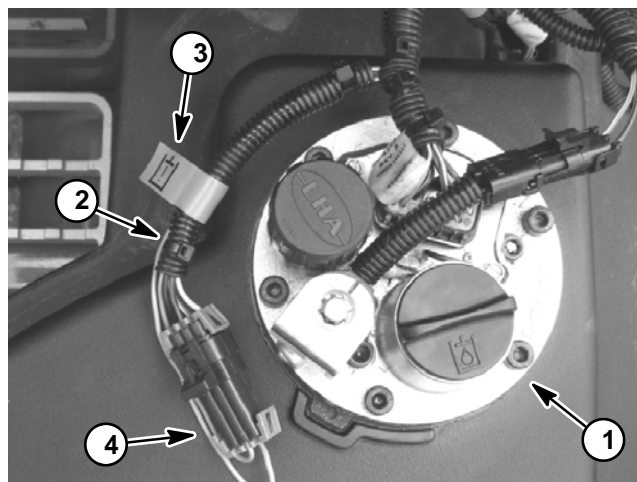

Figure 12
The optional TurfDefender™ is an electronic hydraulic fluid leak detection device that fits inside the hydraulic reservoir of your machine (Fig. 12). It is a pressure based system which requires a sealed hydraulic reservoir to function properly. Very small changes to the oil level in the sealed reservoir result in movement of the leak detector's internal float. The internal microprocessor of the TurfDefender™ analyzes the float movement and determines if there is a leak in the hydraulic system.
2. Raise hydraulic reservoir cover. Locate leak detector wire harness loopback connector identified with a green hydraulic symbol tag (Fig. 12). Carefully unplug loopback connector from harness connector.